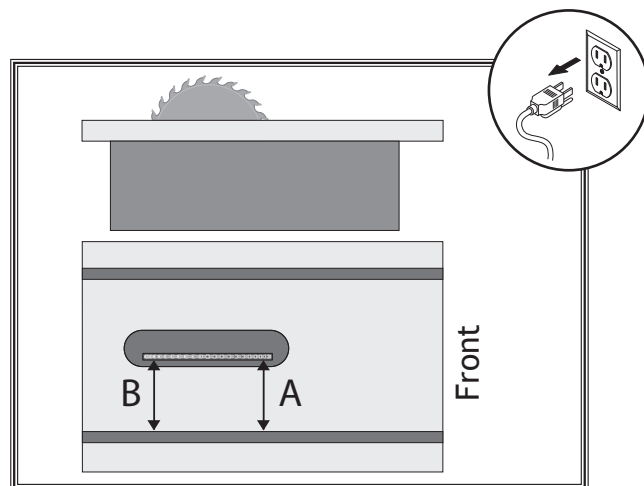

Figure 39. 90° blade parallelism measurement.
3. Using an adjustable square, measure the distance (A) between the miter slot and the front of the blade as shown in **Figure 39**.